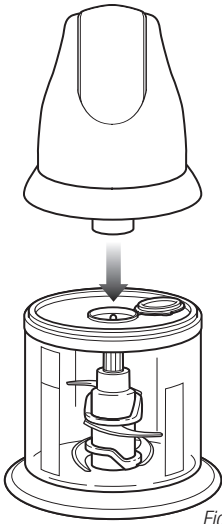

Fig. 4
- 7 Place the power head on top of the splash guard making sure that it is securely in place. **(Fig. 4)**